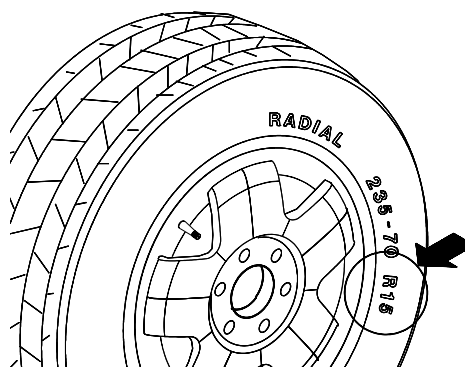

Figure 23
**4.5.3. Rim Diameter** - Read the rim diameter marked on the sidewall of the tire (*Fig.23*). Enter the measured rim diameter by rotating the diameter/function knob until the desired value appears in the right display.